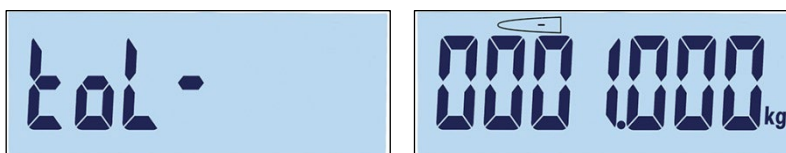

Figure 3-48: Negative Tolerance Label and Setting Screens
3. Next, the negative tolerance (Tol -) screen appears, followed by the negative tolerance editing screen (Figure 3-48).